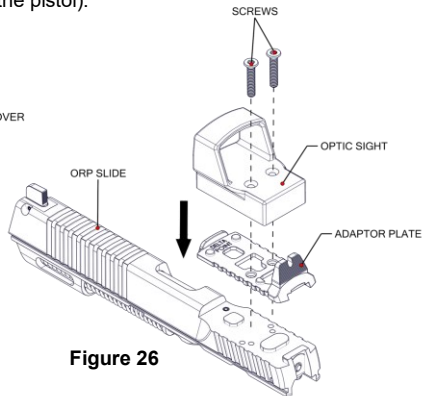

Figure 26
2. Choose an Adaptor Plate. Place it on the ORP Slide (Figure 26).
3. Place the Optic Sight above the Adaptor Plate. Align their bolt holes (Figure 26).